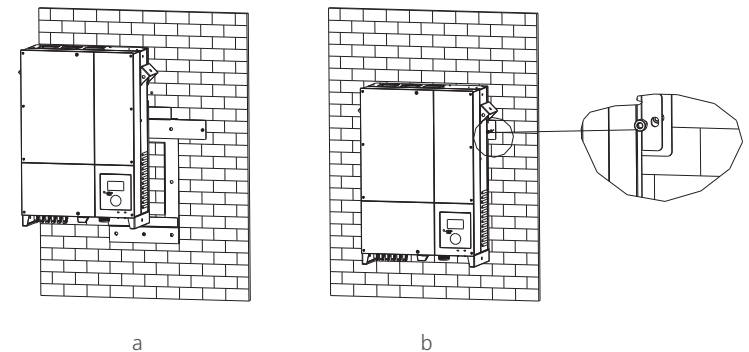

Fig 3.5
- Hang the inverter on the bracket through the match hooks on bracket and the back of the inverter. Installed one M6*10 screw at each side of inverter to reliable fixed it on the wall. Please reference in Fig 3.5(b).